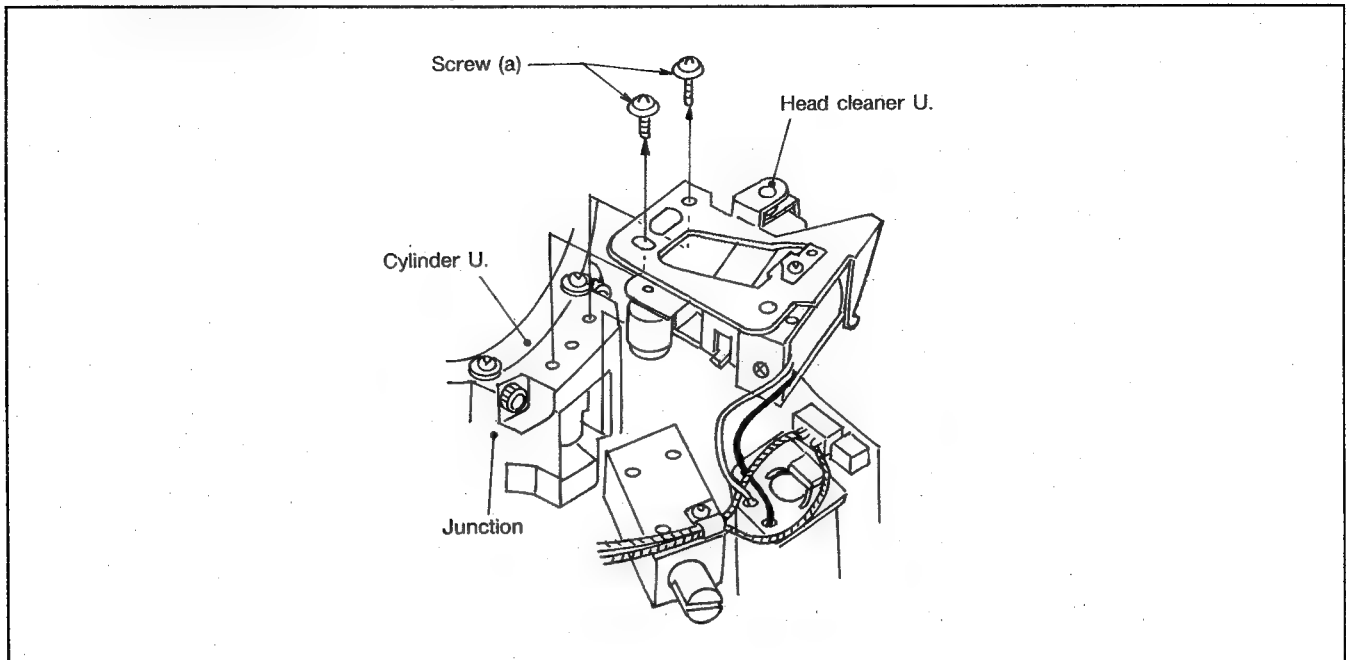

Fig. 7-1-1
- 2) Remove Head Cleaner Unit from cylinder unit as shown in figure 7-1-1.